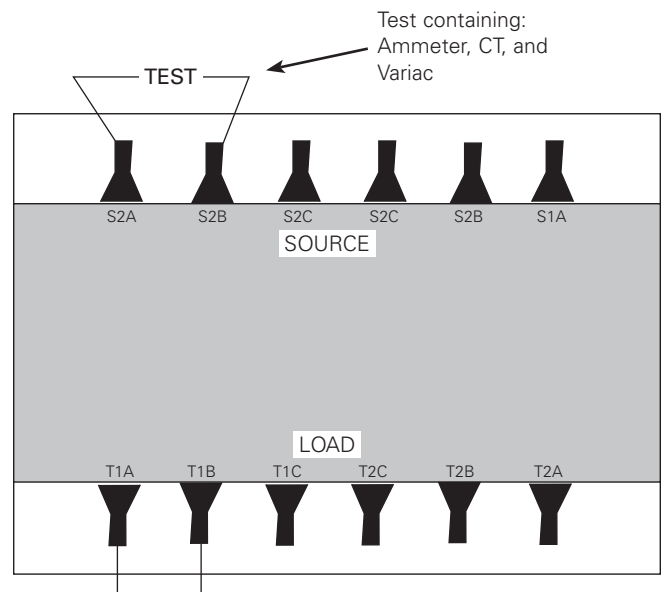

Figure 7. Typical padmount unit in AØ to BØ test
1. Place all dip-switches in the ON position as shown in Figure 7 (this will set minimum trip to 1290 Amps).